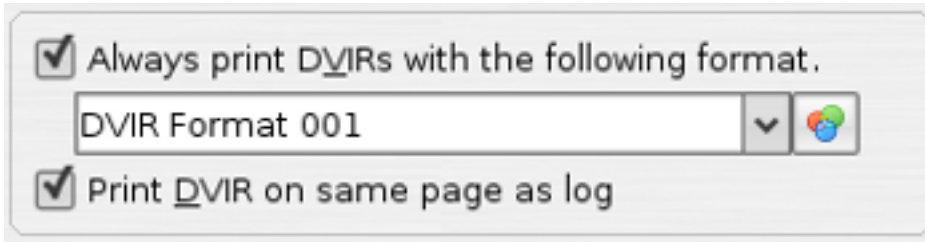

Figure 7.14. DVIR Format Section
2. Under the DVIR Format section see Figure 7.14, "DVIR Format Section" make sure the "Always print DVIRs with the following format" checkbox is checked. Then select the desired default DVIR format.
2. Under the DVIR Format section see Figure 7.14, "DVIR Format Section" to the right of the DVIR format selection box is a small button with a color wheel  and wait for the individual log format settings click that button and wait for the color chooser dialog to appear.
2. In the DVIR Format section see Figure 7.14, "DVIR Format Section" make sure that there is no DVIR format selected, i.e. the DVIR format is blank.